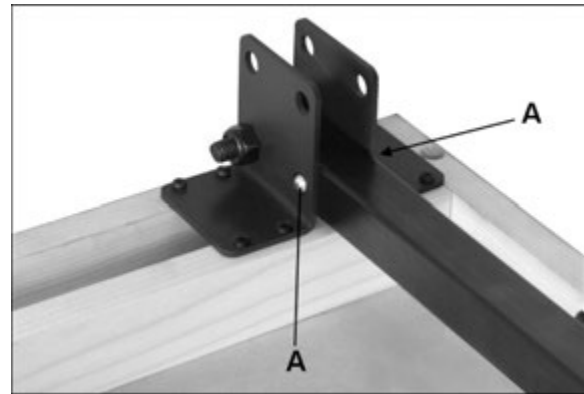

Figure 6-6: for PM2000B
2. Press both ball detents (A, Figure 6-6) and swing leg until it “clicks” into position.